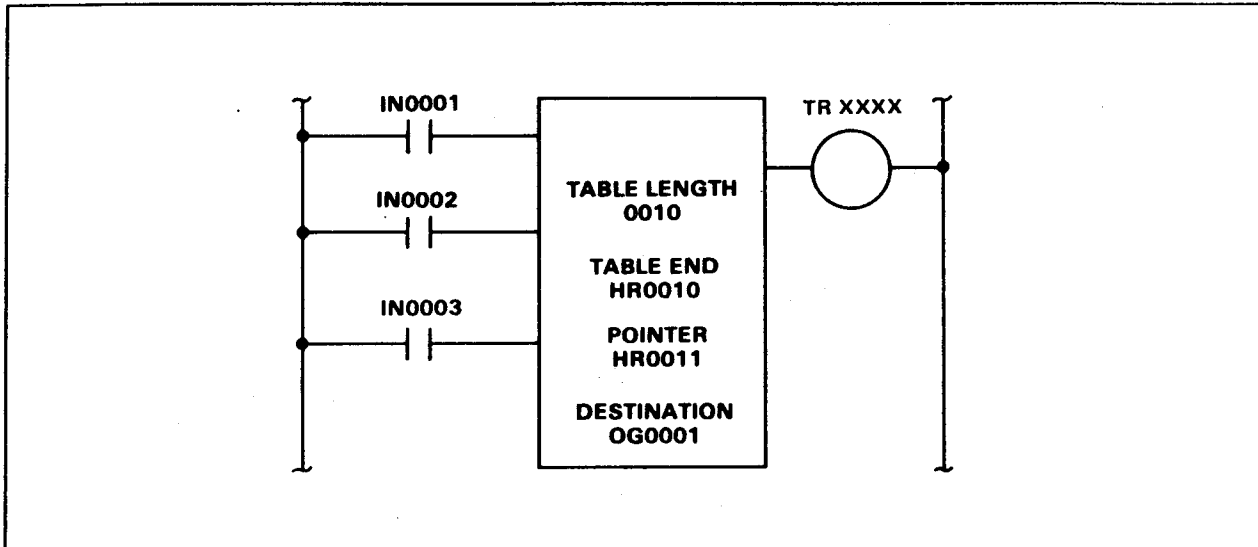

Figure 4-21. Table-to-Register Pitfalls
Another situation that requires attention to program order occurs with the use of output groups, as with a Table-to-Register (TR) function. In Figure 4-21, the TR function is identified by the coil reference number 0001. Its destination is the output group OG0001, which consists of the discrete outputs 1 through 16. Placing the coil reference number in the same output group as the destination defeats the purpose. This could cause the user program to malfunction since invalid information may be transferred to the destination register.